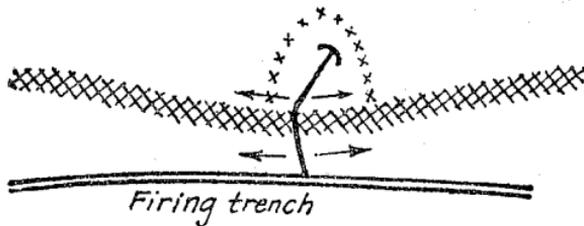

FIG. 185.
*Small posts*.—In front of the firing trenches are thrown out *small posts* or even *watch trenches*, likewise surrounded by barbed wire. (Fig. 185.) These dispositions, even though occupied by comparatively weak forces, offer a first resistance
to the enemy, and thus allow the flanking defenses, which sweep the zones of accessory defenses, to come into action. The trench giving access to a small post will, moreover, usually serve as a flanking defense for the adjacent parts of the first line (fig. 185). In the absence of small posts, the sentinels and men on the watch station themselves in the firing trench, which is in that case sometimes designated as the "watch trench." This is, however, a misnomer.